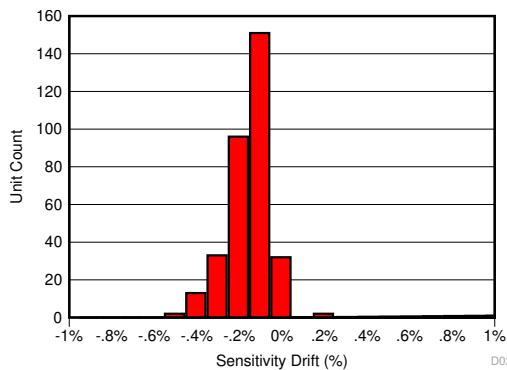
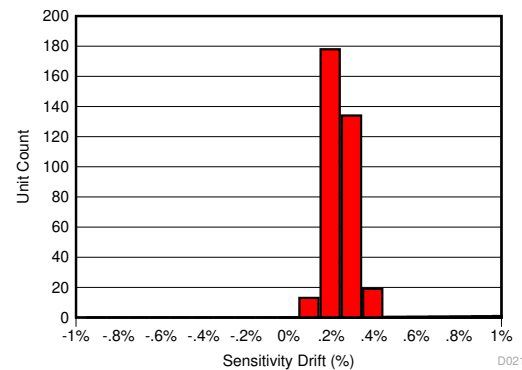
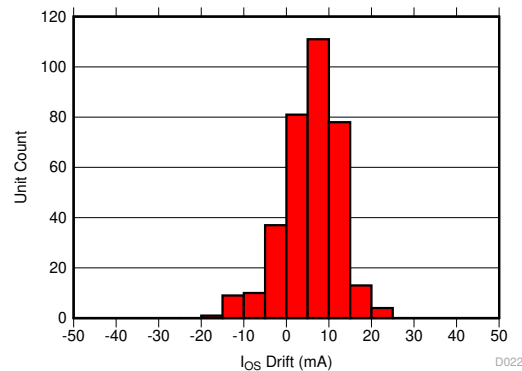

图 9-4. Sensitivity Error After 130°C, 85% RH HAST
图 9-5. Sensitivity Error Drift After AEC-Q100 High Temperature Operating Life Stress Test
图 9-6. Input-Referred Offset Drift After AEC-Q100 High Temperature Operating Life Stress Test
The same compensation techniques used in the TMCS1100-Q1 to reduce temperature drift also greatly reduce lifetime drift due to aging, stress, and environmental conditions. Typical magnetic sensors suffer from up to 2% to 3% of sensitivity drift due to aging at high operating temperatures. The TMCS1100-Q1 has greatly improved lifetime drift, as defined in the Electrical Characteristics for total sensitivity error measured after the worst case stress test during a three lot AEC-Q100 qualification. All other stress tests prescribed by an AEC-Q100 qualification caused lower than the specified sensitivity error, and were within the bounds specified within the Electrical Characteristics table. 图 9-4 shows the total sensitivity error after the worst-case stress test, a Highly Accelerated Stress Test (HAST) at 130°C and 85% relative humidity (RH), while 图 9-5 and 图 9-6 show the sensitivity and offset error drift after a 1000 hour, 125°C high temperature operating life stress test as specified by AEC-Q100. This test mimics typical device lifetime operation, and shows the likely device performance variation due to aging is vastly improved compared to typical magnetic sensors.